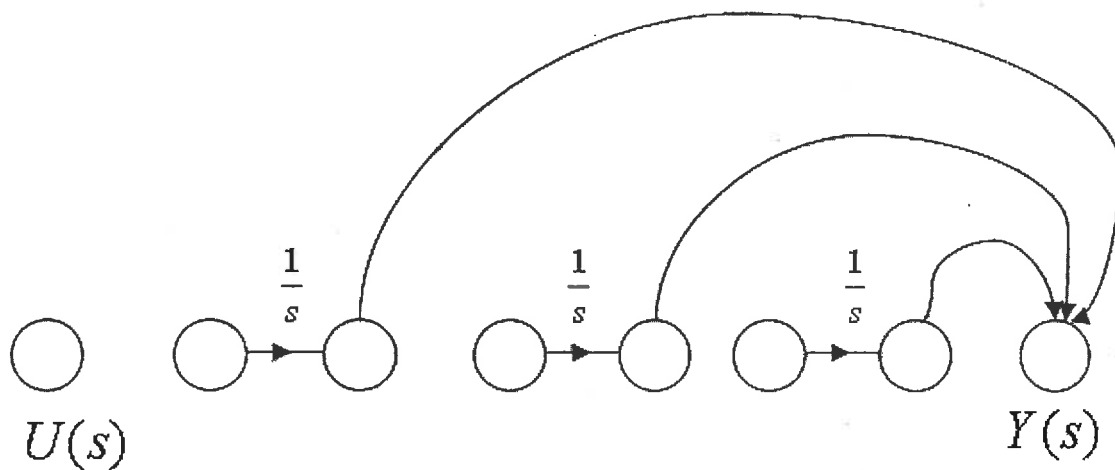

Figure Q7.2: Complete the Signal Flow Graph here.
- 1) In the space provided in Figure Q7.2 below, complete a signal flow graph so that it will represent $G(s)$. Note that there are several different possible realizations of this transfer function.